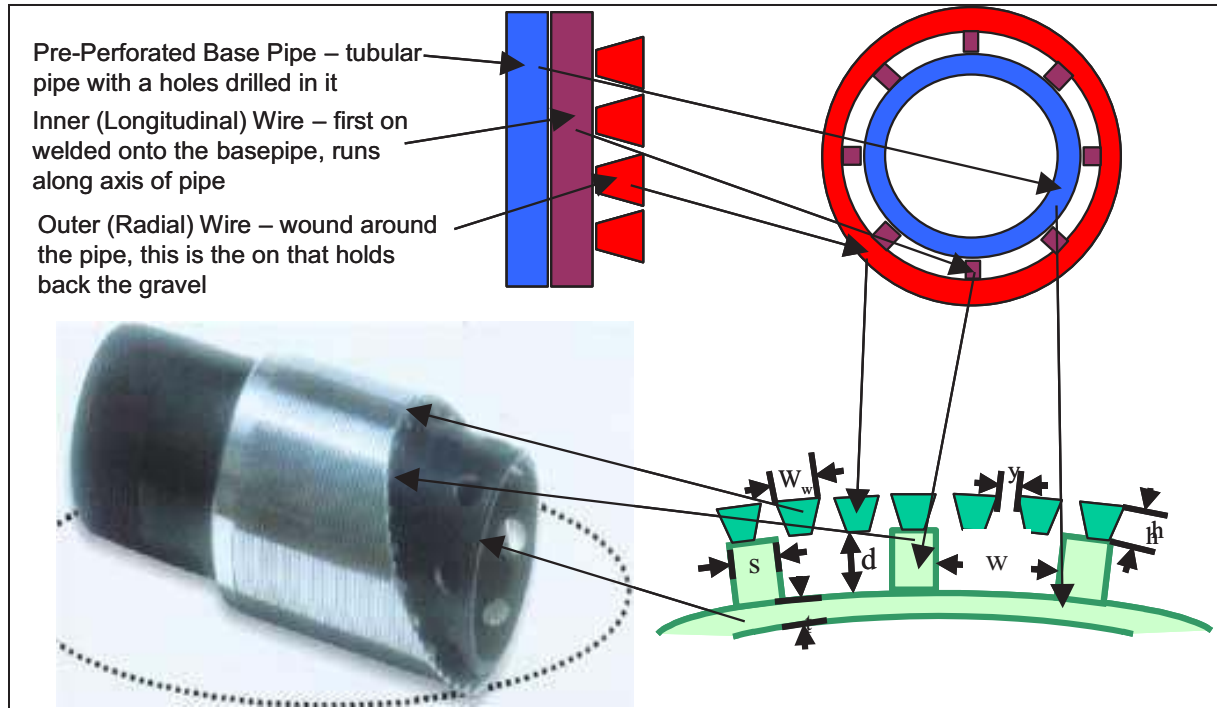

Figure 31. Wire-wrapped Screens Illustration
Figure 31 illustrates the various components in wire-wrapped screens.
- Width of flow Channel – the width of the space radially between the longitudinal wires of the screen. “w” in the **Figure 31**.
- Thickness of flow channel walls – width of the longitudinal wires (those first laid on the base pipe). “s” in **Figure 31**.
- Height of flow channel – thickness of the longitudinal wires (those first laid on the base pipe). “d” in **Figure 31**.
- Wire Width – width of the outer wires of the screen (those that hold back the sand). “W_w” in **Figure 31**.
- Wire Thickness – thickness of the outer wires of the screen. “h” in **Figure 31**.
- Spacing between wires – the gap between the outer wires of the screen. “y” in **Figure 31**.